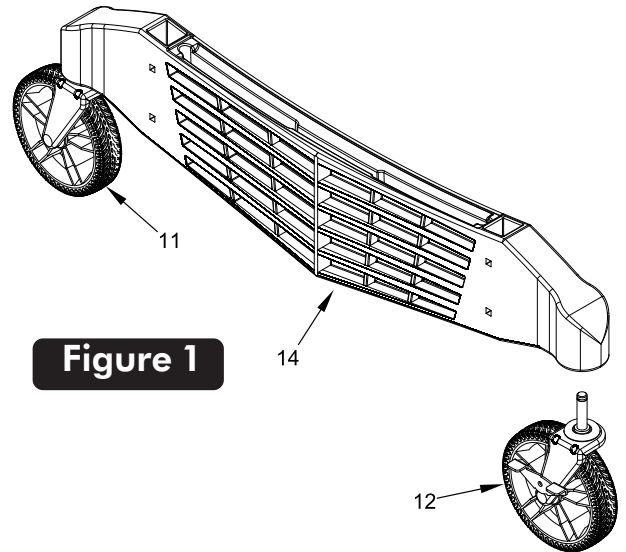

Figure 1
2. Insert one Caster without Brake #11 and one Caster with Brake #12 into Caster Beam #14. Be sure casters are inserted all the way into caster beam. Assemble both caster beams and casters the same way. See Figure 1.